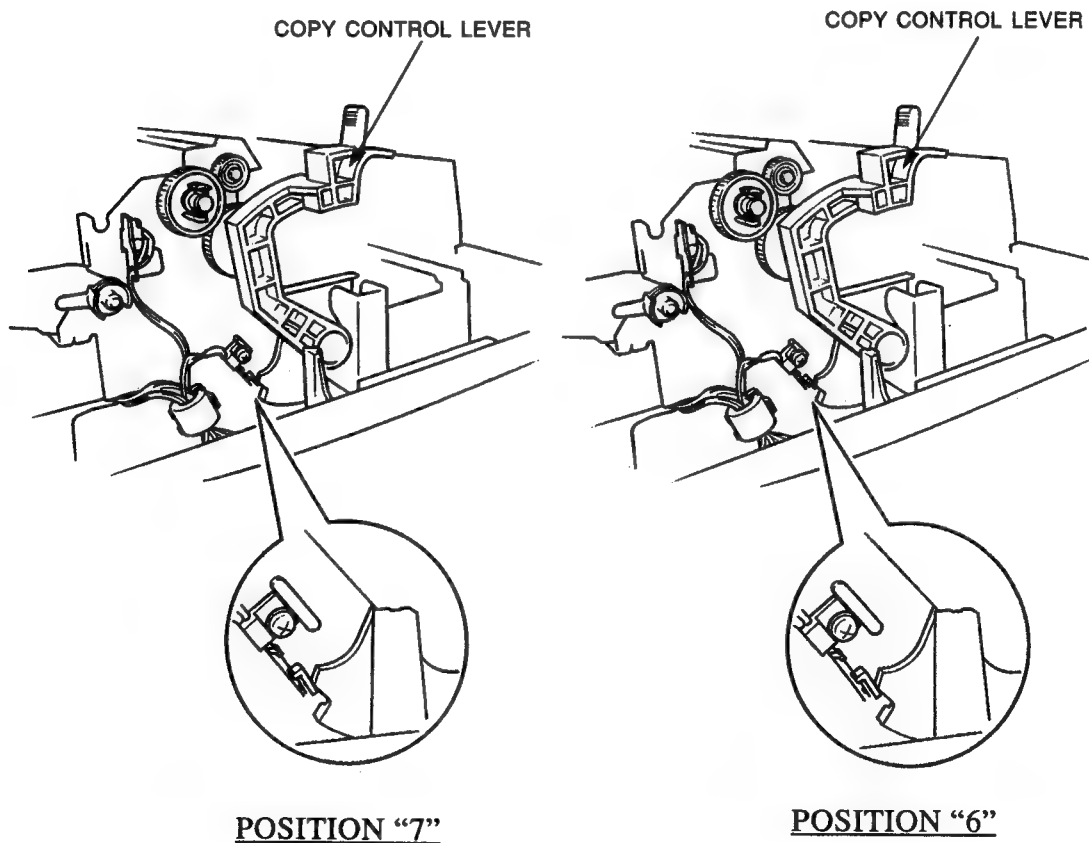

Figure 4-3 PF Sensor Adjustment
3. Loosen the screw securing the PF sensor to the left side frame (see Figure 4-3).